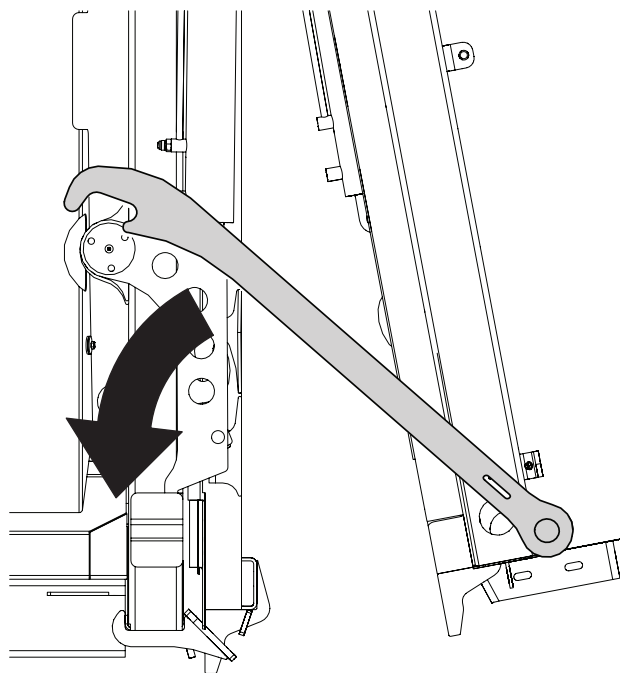

Figure 22
2. Lower the tailgate prop so that it does not need to travel far when the tailgate is opened (Figure 22). Do this on both sides.